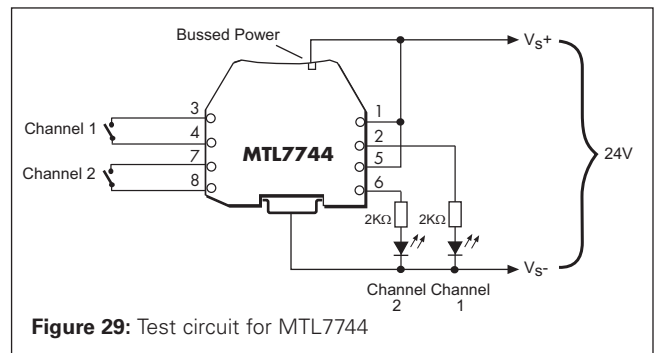

Figure 29: Test circuit for MTL7744
- Connect the barrier as shown in figure 29.